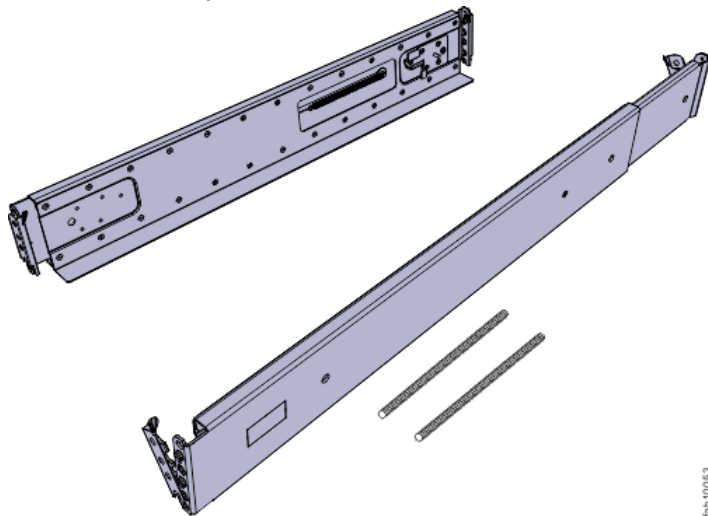

Figure 30. Expansion enclosure support rails
1. Locate the expansion enclosure rails (Figure 30 on page 71).